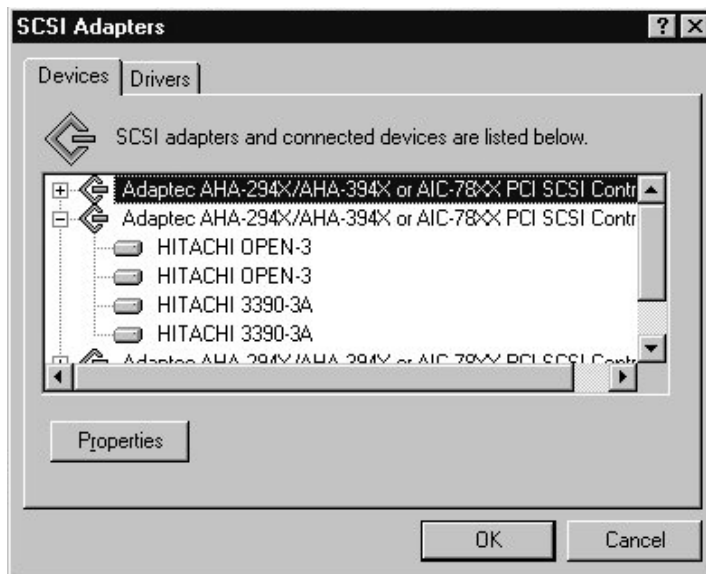

Figure 2.5 Verifying New Device Recognition – SCSI Adapters Control Panel
3. Verify that all new 9900 devices are displayed (see Figure 2.5). All new devices (SCSI disk and HMDE devices) should be listed. To check the TID and LUN of any device, select the device, click on **Properties**, and then select the **Settings** tab.